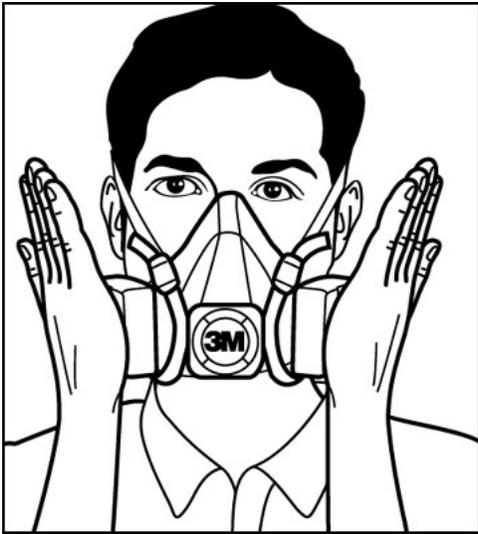

Fig 1
1. Using hands, press or squeeze filter covers toward facepiece to restrict airflow. Be careful not to disturb the position of the respirator. *Inhale gently*. If you feel the facepiece collapse slightly and pull closer to your face with no leaks between your face and the sealing surface of the respirator, a proper seal has been obtained. (Fig. 1)